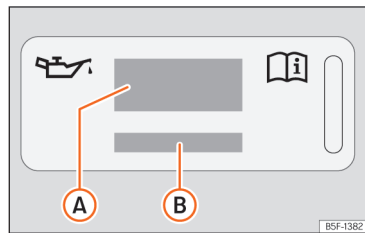
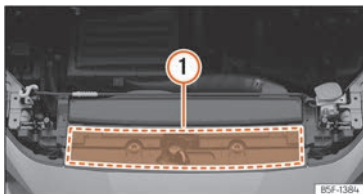

Fig. 185 In the engine compartment: engine oil label
Fig. 186 In the engine compartment: area where the engine oil label is located
Key to the >>> **Fig. 185:**
If the engine oil has to be topped up, use one of the oils shown on the label >>> **Fig. 185**. The label with the prescribed standard is located at the front of the engine compartment >>> **Fig. 186** (1). If you use the recommended engine oil, you can top up the oil as often as necessary.
- If the label showing the engine oil specifications is missing >>> **Fig. 185**, please contact a specialist workshop.